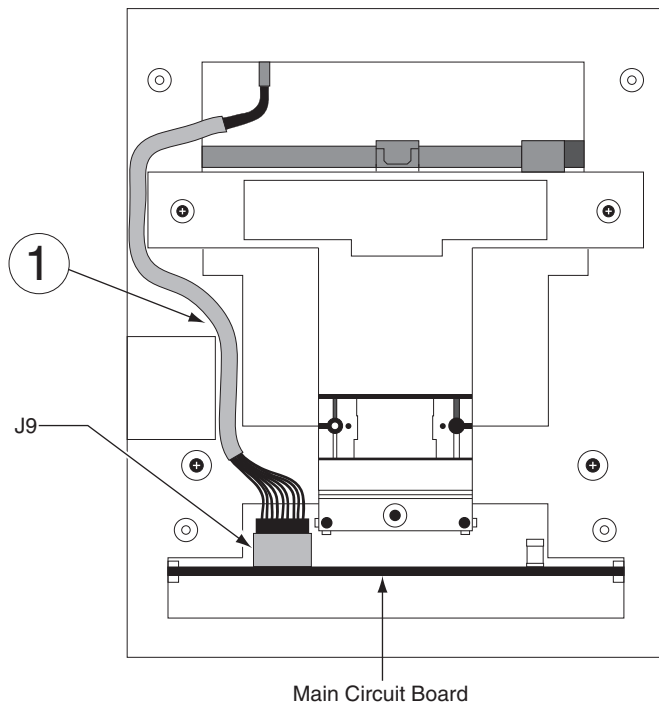
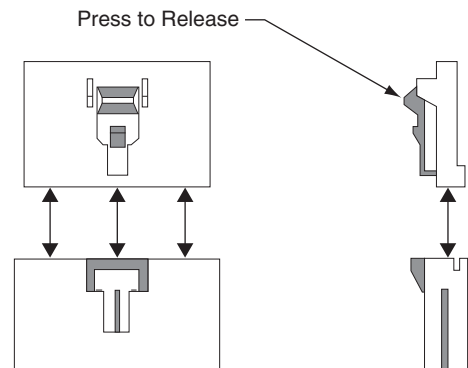

Figure 3
Figure 4
- Locate the cable on the left side of the reader that runs from the top panel circuit board to the main circuit board. Disconnect this cable from J9 on the main circuit board. See "1" on figure 3. To remove the J9 connector from the main circuit board, depress the retaining clip on the connector and pull upwards. Take care to pull on the connector and to not pull on the cable. See figure 4 below.